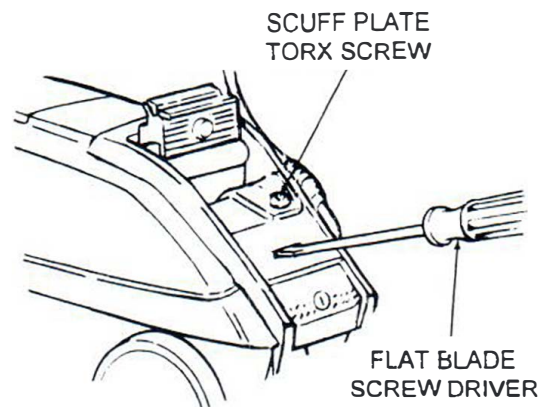

Figure 6. Scuff Plate Removal
- B. See Figure 6. Remove scuff plate by: